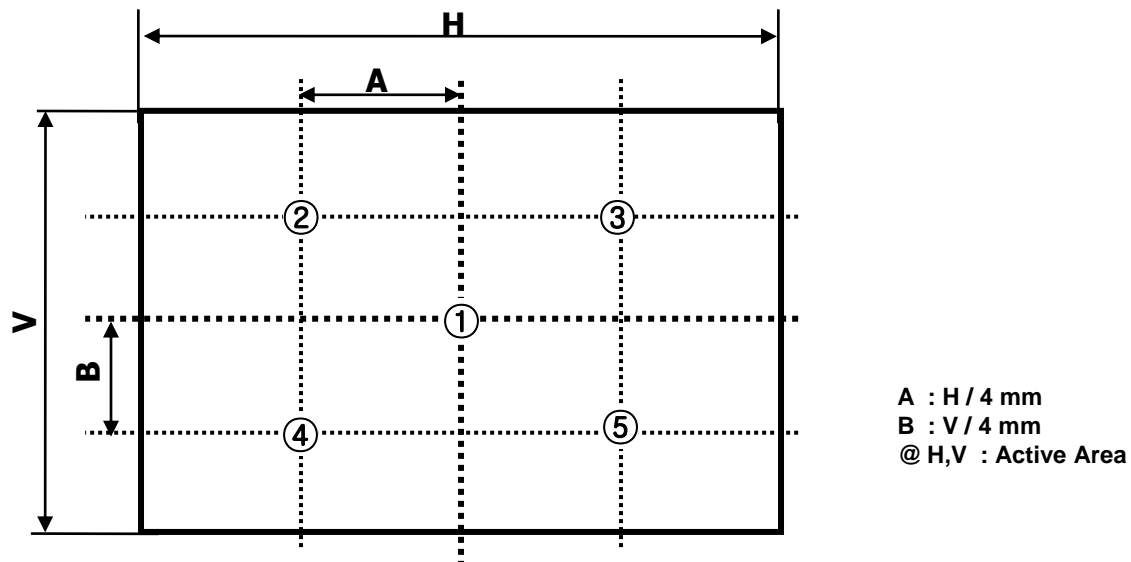

FIG. 2 5 Points for Contrast Ratio
- (1) Temperature : 5 ~ 40 °C
- (2) Humidity : 35 ~ 75 %RH
- (3) Period : 6 months
- (4) Control of ventilation and temperature is necessary.
- (5) Please make sure to protect the product from strong light exposure, water or moisture. Be careful for condensation.
- (6) Please keep the modules at a circumstance shown below Fig. 2
< Fig. 2 >